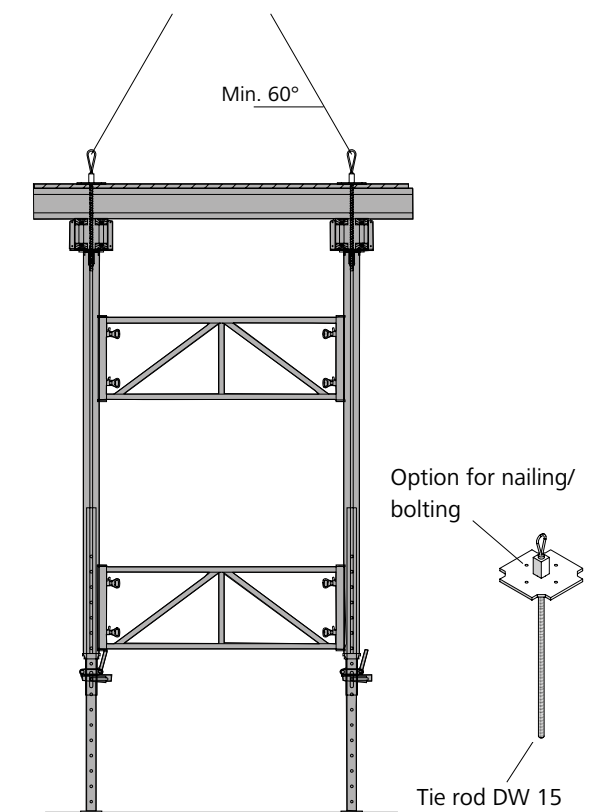

Fig. 1
- By screwing them into the DW threads of the forked prop heads MEP (Fig. 1)
To provide stability, the crane hanger MEP must be fixed to the facing with nails or screws (Fig. 1).
- Always use four crane hangers MEP attached symmetrically to the slab table (Figures 1 and 2).